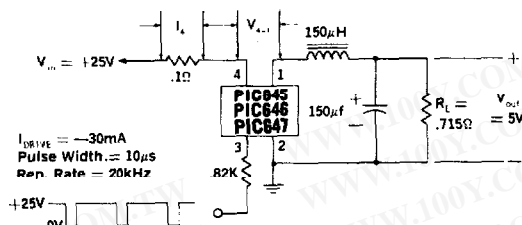

Figure 1. PIC645, 646, 647 Switching Speed Circuit
- The efficiency is a measure of internal power losses and is equal to Output Power divided by Input Power. The switching speed circuit of Figure 1, in which the efficiency is measured, is representative of typical operating conditions for the PIC600 series switching regulators.